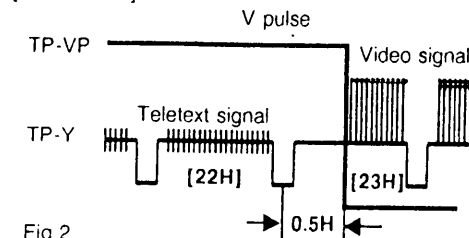

Fig 2.
- 4: Adjust VP Width VR so that the leading edge of the vertical pulse comes in place as shown in fig. 2.